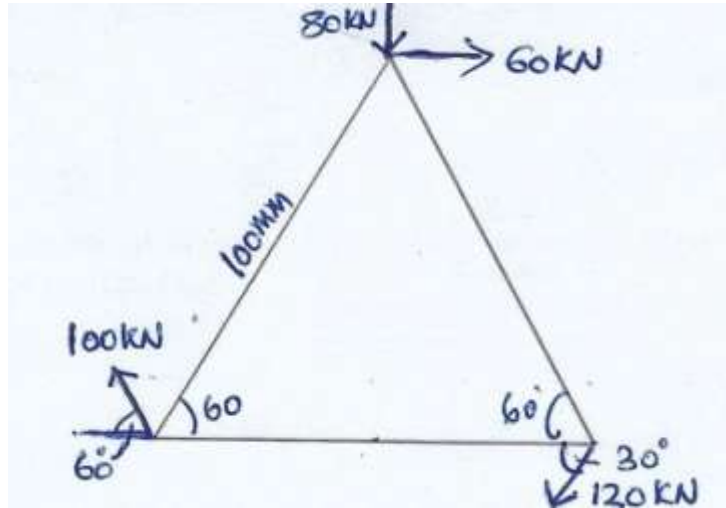

Fig. 5a
5. (a) Find the resultant of the force system acting on the lamina of equilateral triangular shape (Refer fig. 5a) 10